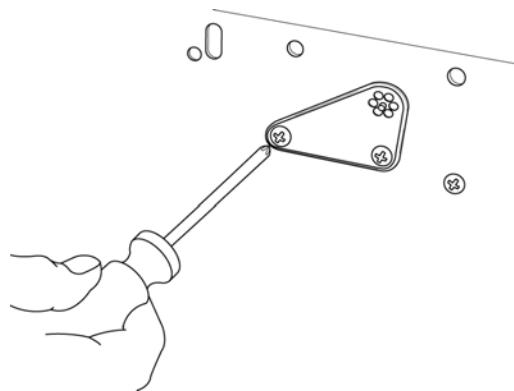

Figure 3.15 Removal of safety check valve guard
9. Pull off the oxygen diffuser tube from the nipple and remove it from the channel base, see figure 3.15